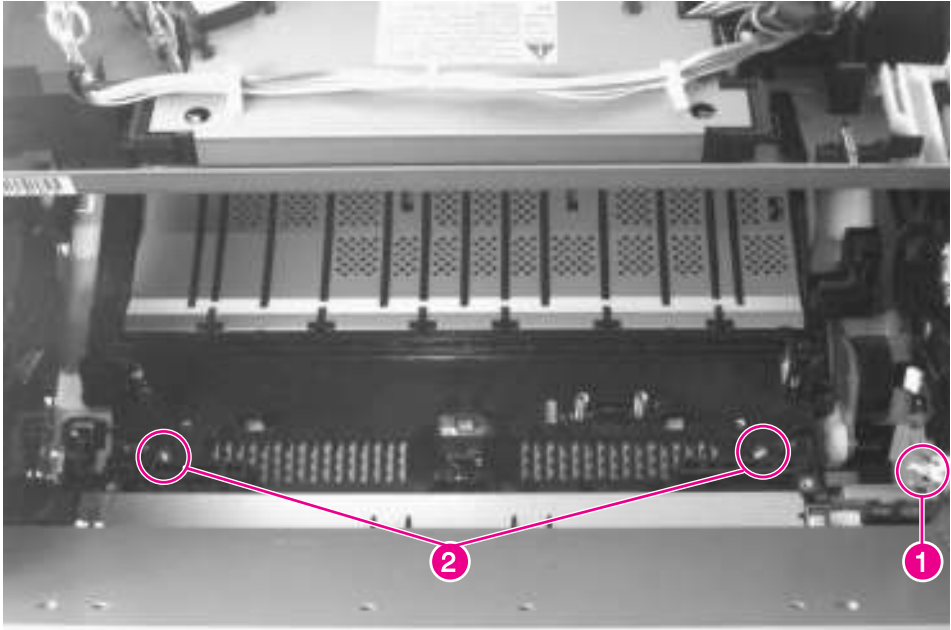

Figure 6-31 Feeder Assembly (1 of 2)
- 6 Unplug the sensor cable at the right side of the Feeder Assembly (figure 6-31, callout 1).
- 7 Remove 2 screws at the front of the Feeder Assembly (figure 6-31, callout 2).